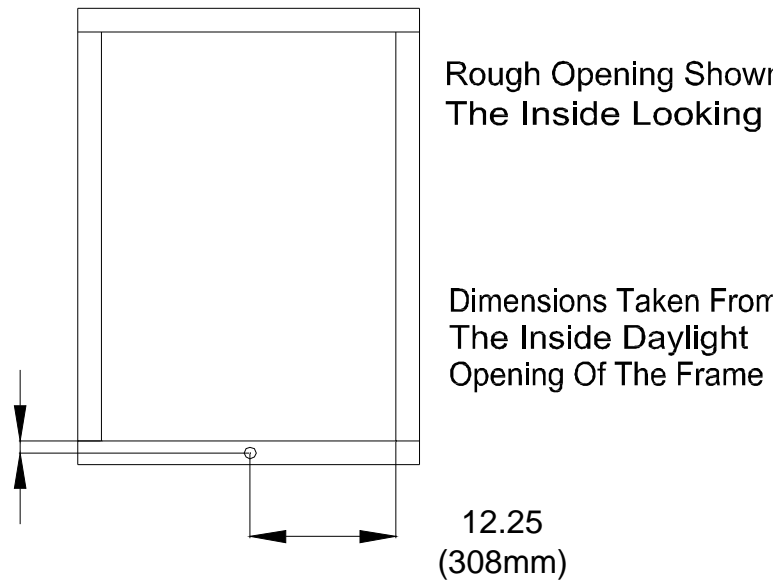

Figure 4
9. For Semi-Automatic installations, Drill a 1" hole through the wall as illustrated in Figure 4. (The dimensions shown are from the inside of the building.)
10. For Fully-Automatic, Drill a 1 ½" hole through the wall as illustrated in Figure 4. (The dimensions shown are from the inside of the building.)